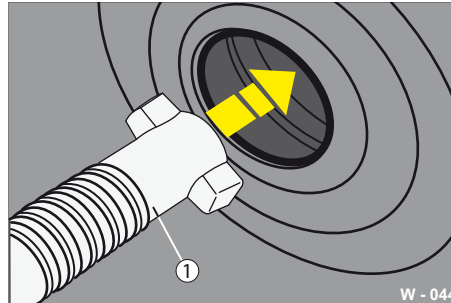

Fig. 44 "Keyhole" bore hole
- ▶ Insert the release screw (Fig. 44/1) through the bore hole in the cover at the back into the "keyhole" aperture.